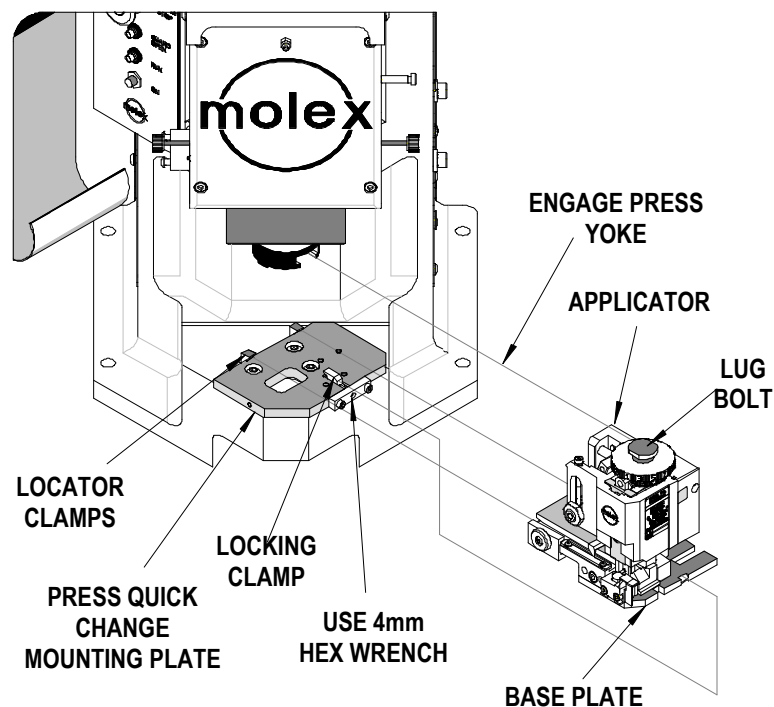

Figure 3-1
5. Locate the applicator lug bolt in the press yoke. See Figure 3-1.